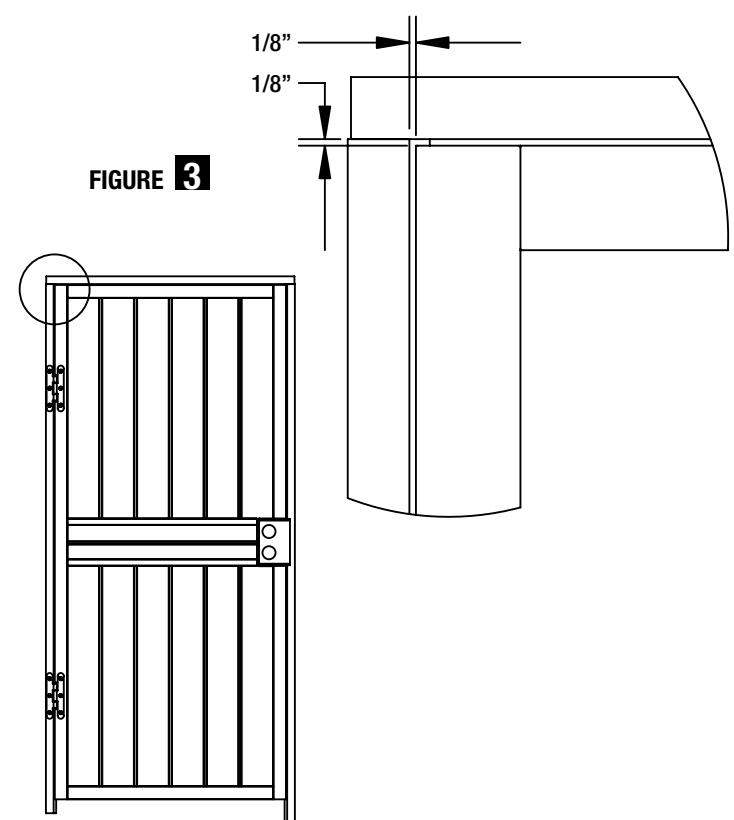

FIGURE 3
Position the header and close the door. Use one screw to hold the header in place. Level the header to provide an even reveal of 1/8" across the top of the door. See Figure 3. Install with (3) #8 x 1" Phillips pan-head screws in the pre-drilled holes.